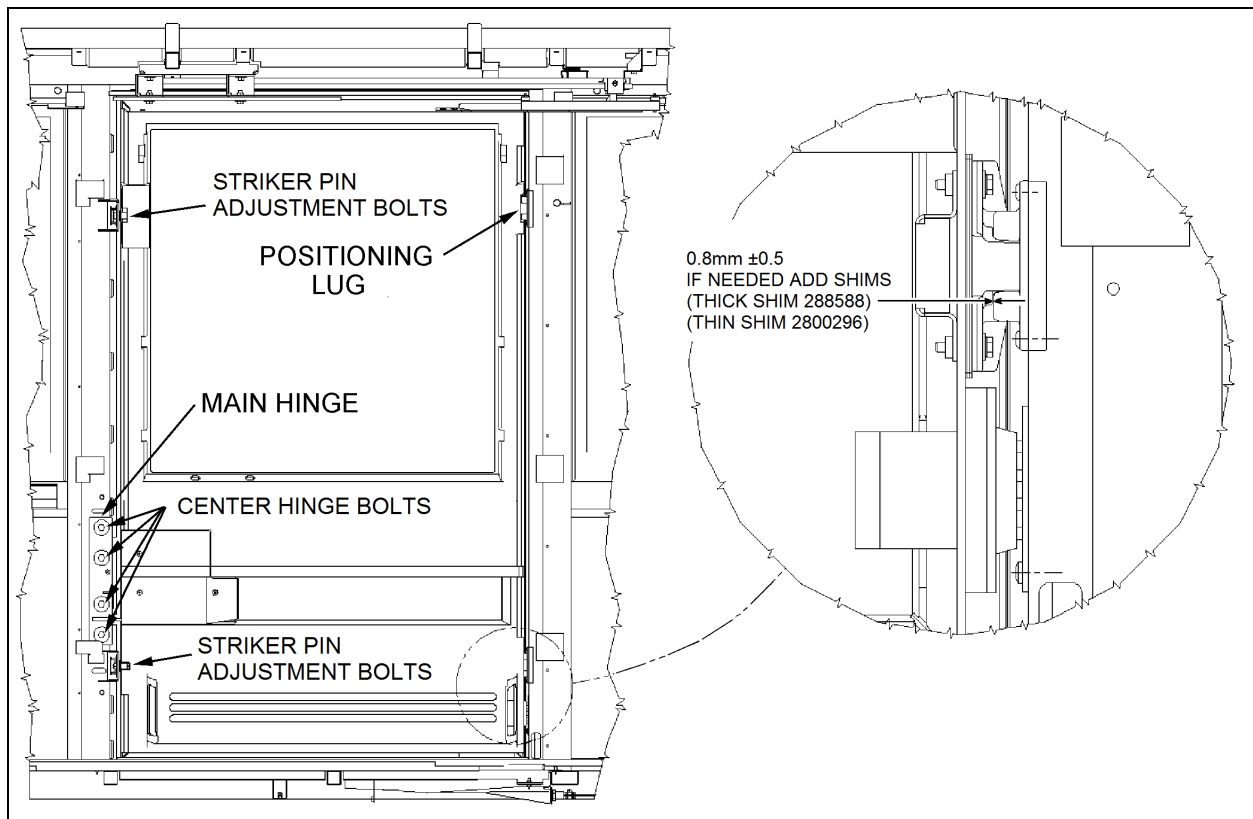

FIGURE 77: WCL SLIDING DOOR INSTALLATION
2. Slide the top rail into the upper arm then bolt the rail to the structure. Do not fully tighten (Refer to Figure 77).